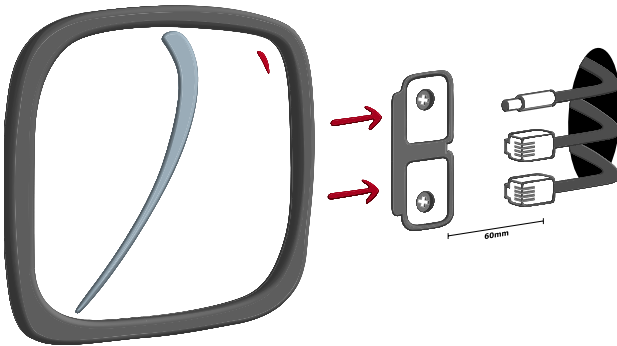

Figure 1: Mounting the 1000AP to a ceiling or wall
3. Install the Category 5 Ethernet cable according to whether you decided to 'star-wire' or 'daisy-chain' the 1000AP's cabling (see *Connecting the cables* on page 9). Ensure these and the power cable emerge at the correct point (see *Figure 1* on page 7).